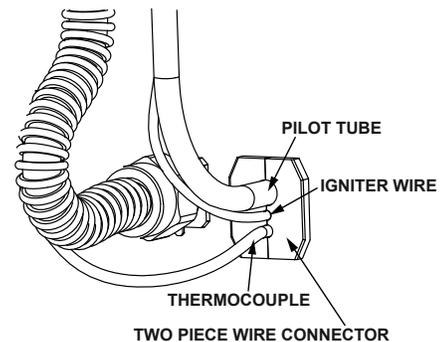

FIGURE 41.
1. Take off the burner by removing the two (2) screws located underneath the burner.
2. Check the burner to see if it is dirty or clogged. The burner may be cleaned with soap and hot water (Figure 41).
2. Remove the burner to access the pilot/thermocouple assembly. Remove and keep the screws securing the burner to the manifold (Figure 41). **IMPORTANT: DO NOT** remove the orifice.
7. Route the new pilot tube and wires through the opening in the manifold door. See Figure 41.
8. Using the pilot screw removed earlier, attach the new pilot/thermocouple assembly. Reattach the burner to the manifold using the screws removed earlier. **NOTE:** If the burner has a scoop, make sure that the scoop is oriented to the pilot side of the manifold tube (Figure 41).